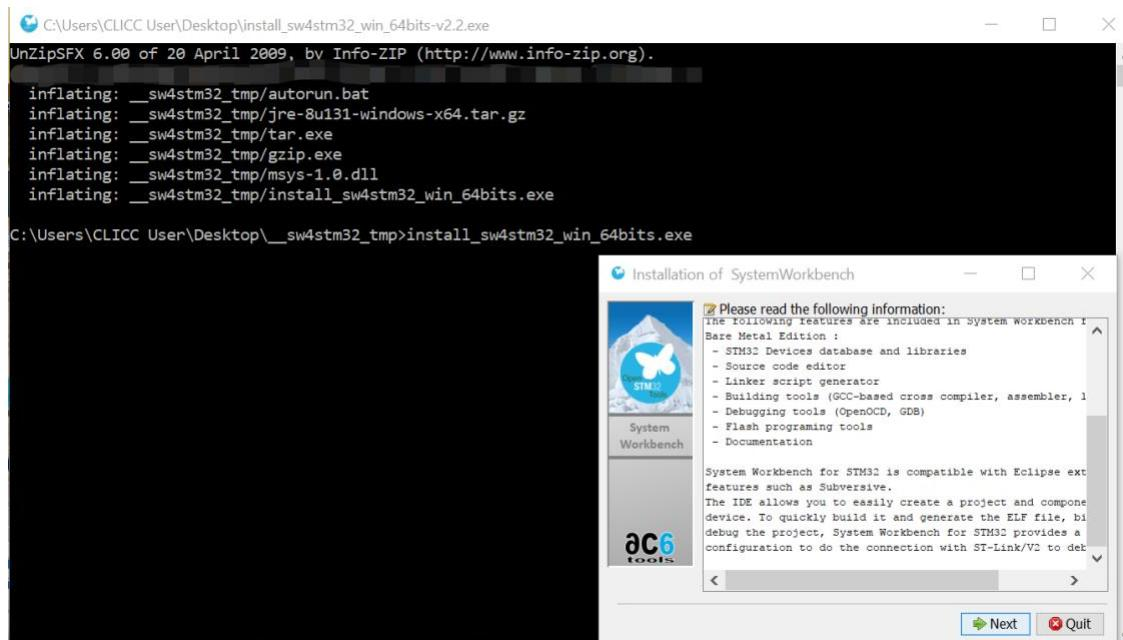

Figure 2: System WorkBench Installation information
3. Install System WorkBench by double-clicking the installer. Then, you should see the installation information like Figure 2.